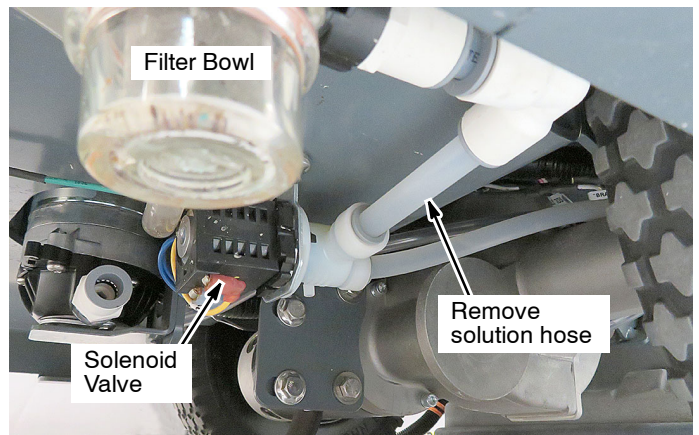

Fig. 27
26. Remove the solution hose located between the solenoid valve and the filter bowl (Figure 27).